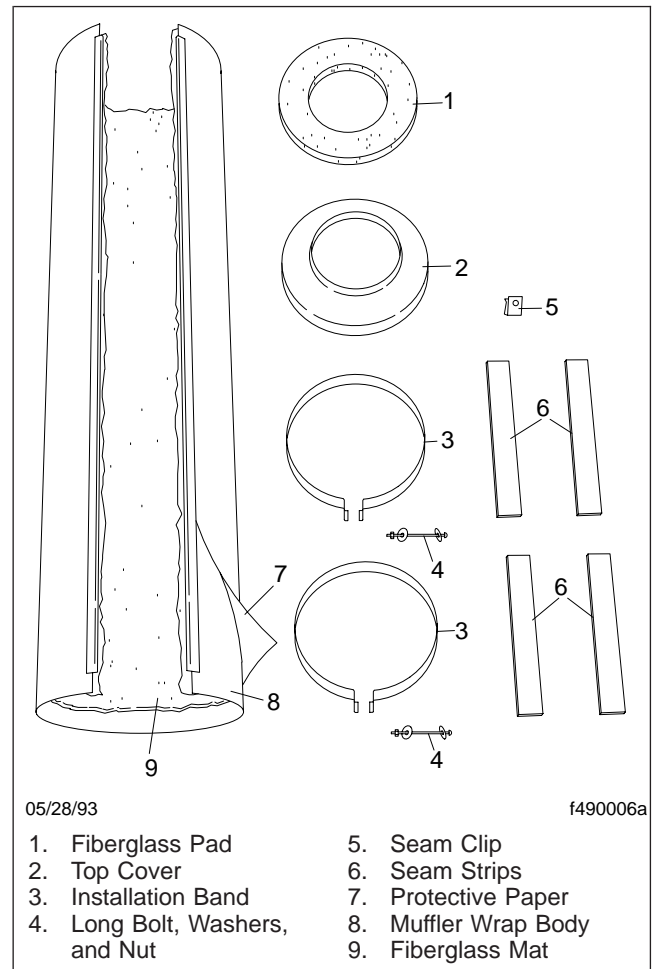

Fig. 1, Muffler Wrap Assembly
1. Check the condition of the muffler body, top stack or top stack silencer, and muffler wrap. See Fig. 1. Check the inlet/outlet tubes for leakage, dents, and corrosion, and check for holes in the muffler. Replace parts as required. Use new parts, equivalent to parts originally installed on the vehicle. See **Group 49** of the *L-Line and A-Line Workshop Manual* for replacement procedures.